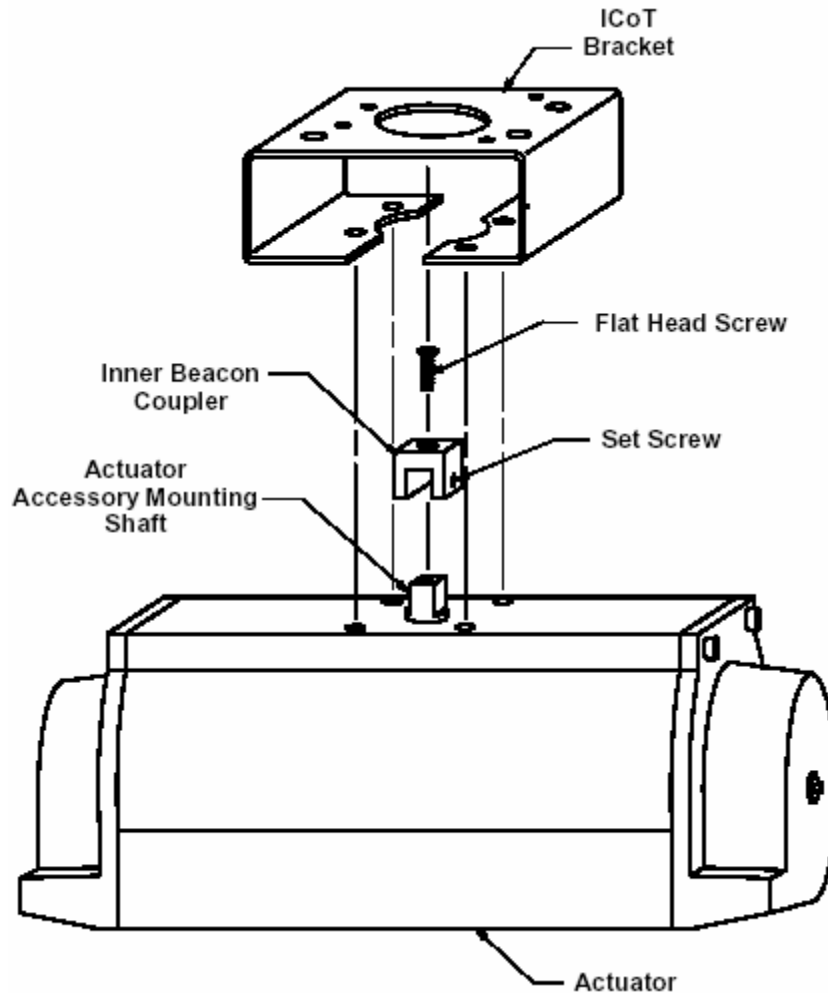

Figure 4
8.1.1. Mount bracket and inner beacon coupler to actuator. If actuator shaft has a tapped hole, fasten using proper flat head screw. If actuator does not have a tapped hole, fasten using set screws on side of coupler (See Figure 4 below).